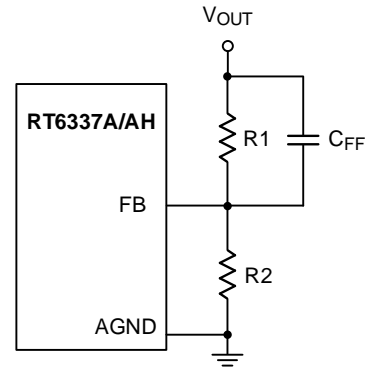
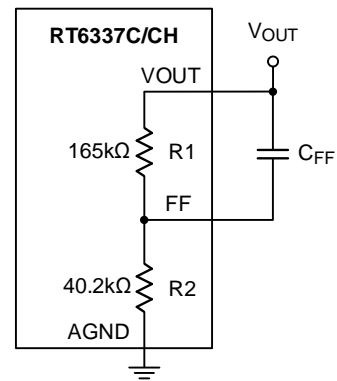
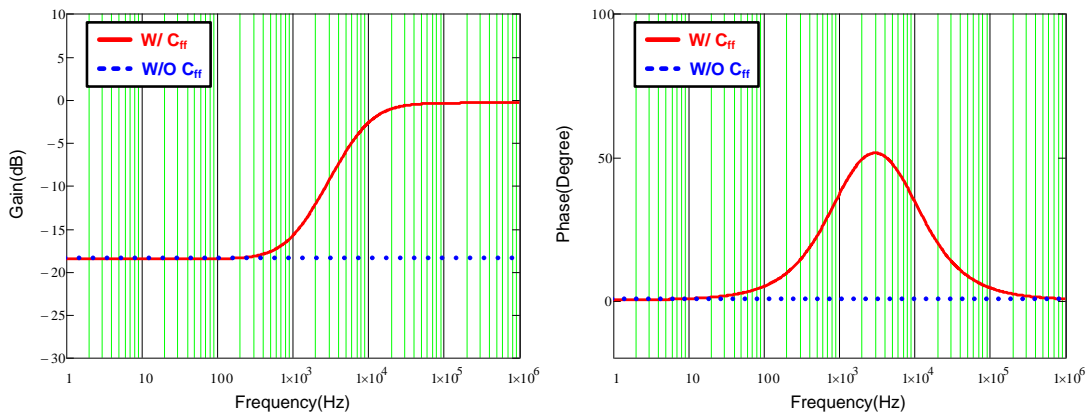

Figure 16. RT6337A/AH Feedback Loop with Feedforward Capacitor
Figure 17. RT6337C/CH Feedback Loop with Feedforward Capacitor
Figure 18. Bode Plot with Different Feedback Loop Conditions
To save time for compensator design and to reduce the layout area through external components, the components of compensator are integrated in the IC. However, this integrated compensator might not be suitable for every load transient specification. Hence, to make RT6337 more adaptable, the feedforward capacitor CFF is used in the feedback loop to improve transient response, as shown in Figure 16 and Figure 17. Figure 18 shows the comparison result of bode plot with different feedback loop conditions. Referring to Figure 18, through connecting a CFF in feedback network, the gain and phase are raised in mid-frequency, which not only extends the bandwidth, but also boosts the phase margin. Moreover, there is also a high frequency pole to eliminate high frequency noise. Consequently, those features of feedforward feedback network allow the RT6337 to have faster response to different load transients.
According to Figure 18, the maximum phase boost that occurs between zero and pole frequencies is defined as maximum phase boost frequency, as expressed in equation (4). Hence, in order to achieve the maximum phase boost by adding CFF in the RT6337, the system's original bandwidth has to be located at maximum phase boost frequency.